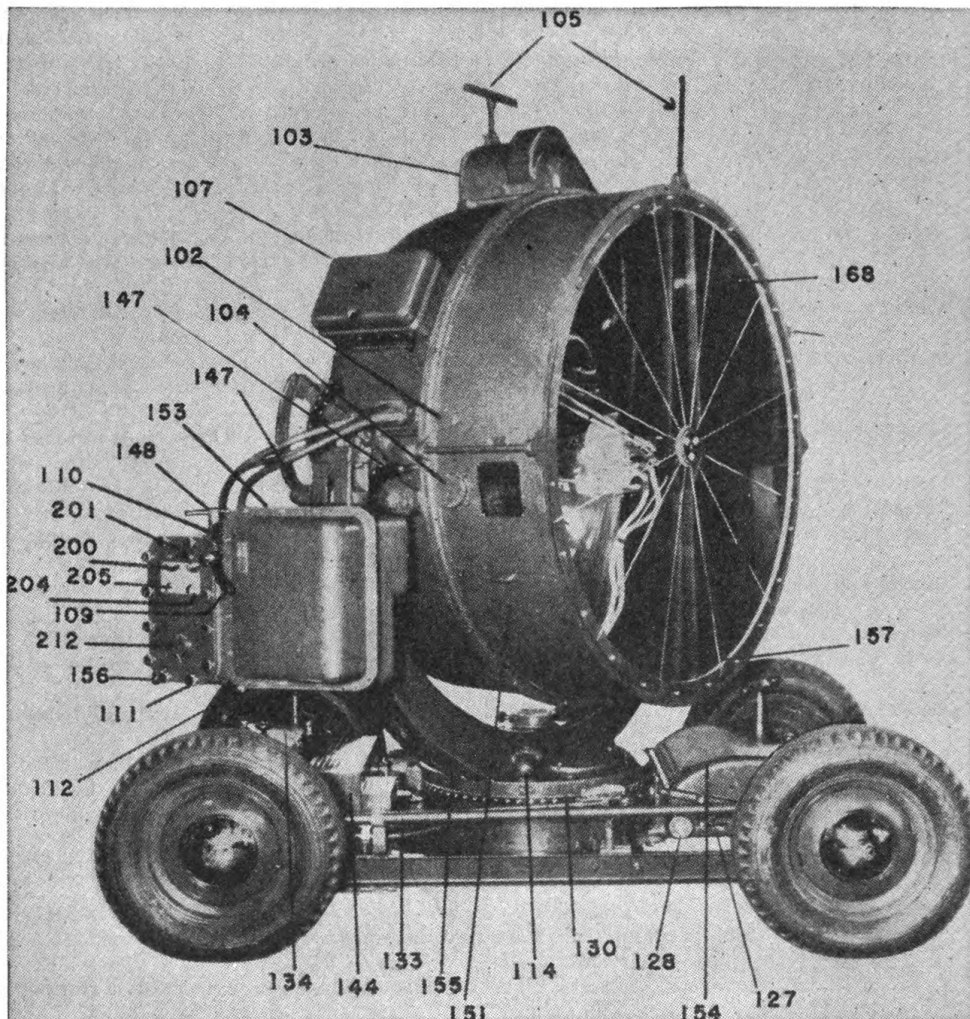

FIGURE 122.—General Electric M1940 searchlight (front quarter view).
**80. General Electric searchlight.—Q.** Point out the various parts of the M1940 General Electric searchlight. **A.** See figures 122 and 123.